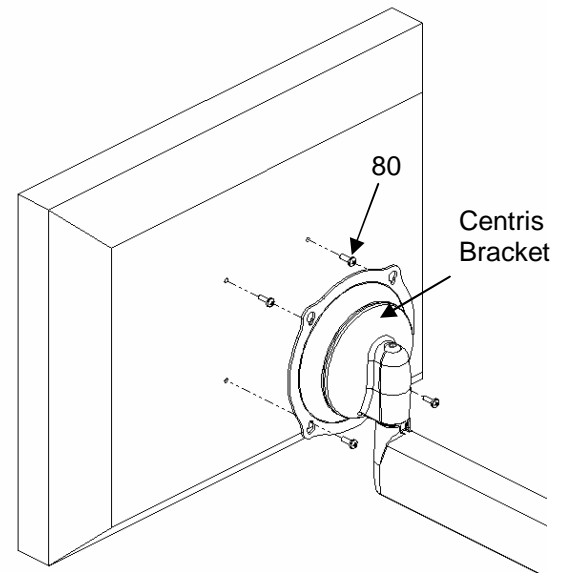

Figure 6. Flush Mount Centris Bracket to Display
1. Start two M4 x 12mm screws (80) into top mounting holes on display (see Figure 6).
3. Install two remaining M4 x 12mm screws (80) into bottom mounting holes on display.